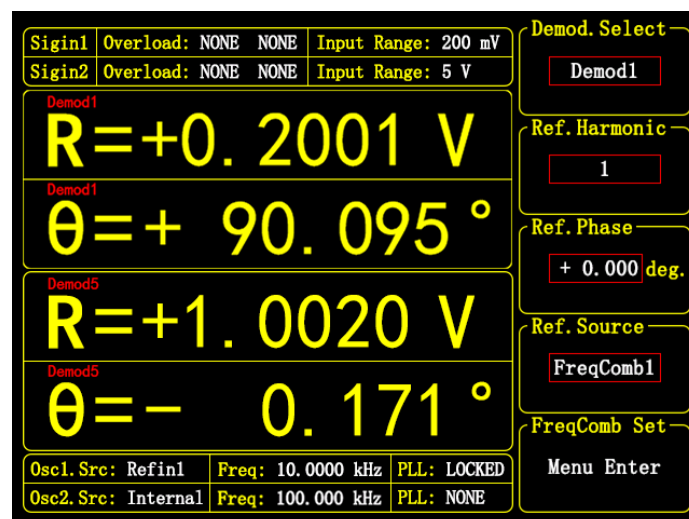

Figure 52. <FreqComb> mode interface
- <FreqComb1> : Sets the reference source of the current demodulator to linear-combination sideband demodulation. The interface for this mode is shown in Figure 52. In this mode, press <Menu Enter> to enter the secondary menu for setting the linear-combination formula. The frequency-combination mode provides four channels, <FreqComb1> to <FreqComb4>, which are independent of the demodulator channels. Each demodulator can be configured independently or can reuse the same <FreqComb> channel.